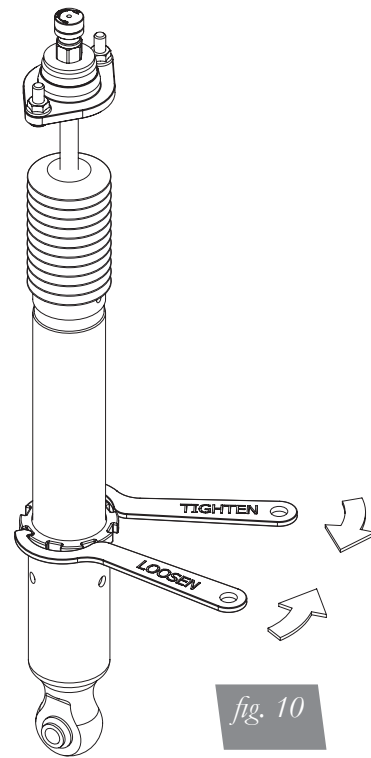

fig. 10
3. Using the supplied spanner wrench, loosen the lower locking collar (fig. 10).